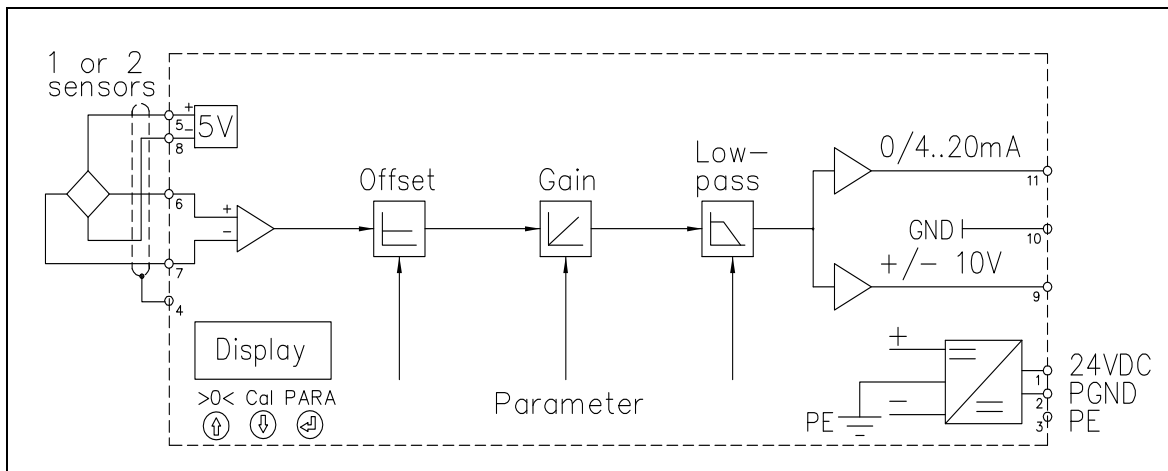

Fig. 1: Block diagram EMGZ 310
2. Wire the Force Measuring Sensor(s) (ref. to Fig. 1 and 2)